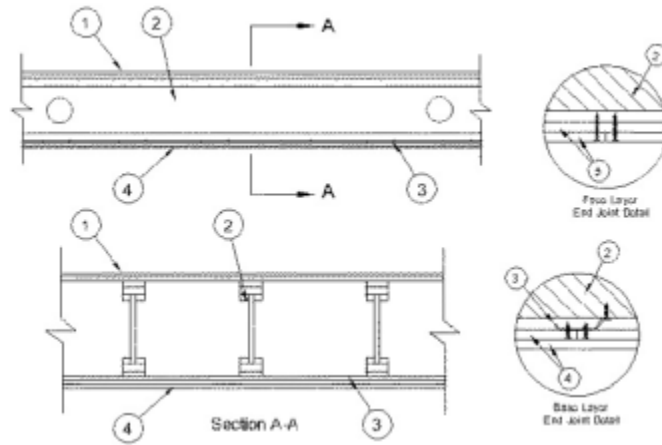

FIGURE 2—Unrestrained Assembly Rating—1 1/2 Hour Finish Rating—60 Minute
4.2.2 Fire-resistance Floor and Ceiling Rating: The fire-resistance-rated assembly shown in Figure 2 is based on a UL design. Homasote 440 SoundBarrier[®] may be used in fire-resistance-rated floor/ceiling assembly when constructed as indicated in the design. When using these assemblies, all details must be in accordance with the specifications contained in UL *BXUV GuideInfo*.